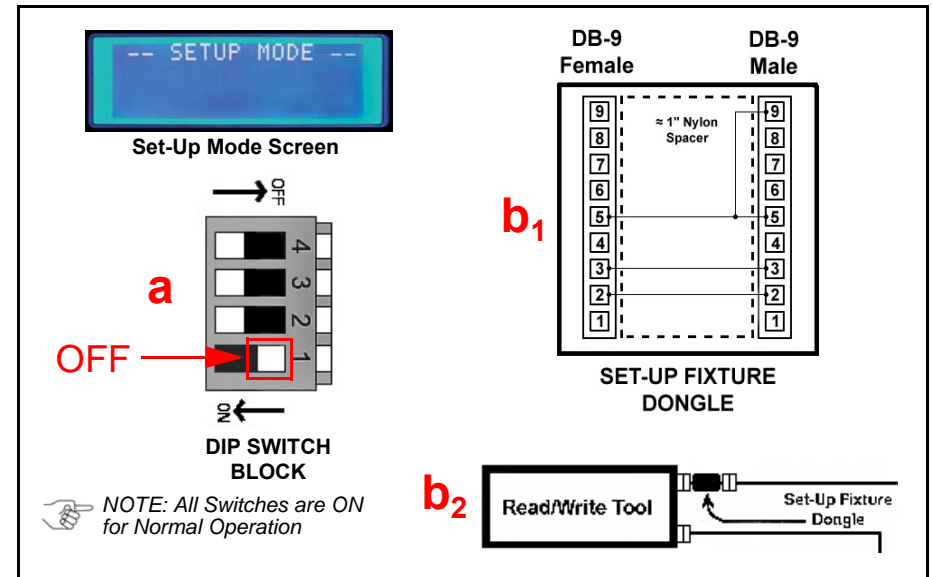

Figure 3 Read-Write Tool Setup & Dongle Pin Configuration
3. Turn DIP Switch Block Switch #1 to **OFF** (See Figure 3 a).
1. Install the Setup Dongle (See Figure 3 b₁) onto the Read-Write Tool's PC COM Port Connector, in-line with the RS232 Serial Cable (See Figure 3 b₂), and connect the opposite end of the Serial Cable to an available COM Port on the PC.
- Turn the Power Switch ON/OFF four (4) times in succession.